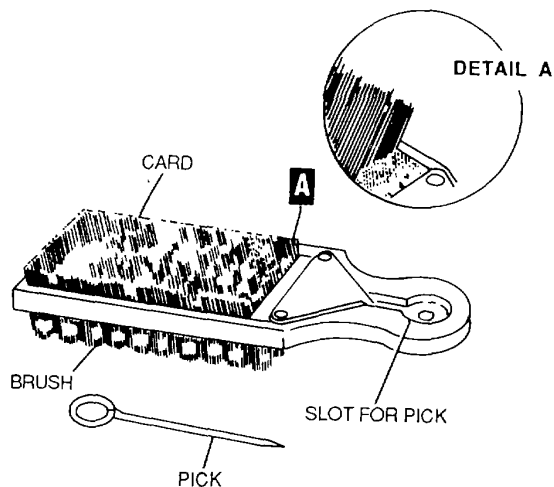

Figure 4-79. File Cleaner
(1) Break in a new file as discussed in paragraph 4-11d(1).
(2) Clean files using the file cleaner shown in figure 4-79.
(3) Never strike the file against a vise or other object to remove filings. Use the file cleaner.
(4) Do not oil files. This will cause the file to slide across the work, preventing efficient cutting.
(5) Wrap each file in a waterproofed barrier wrapping paper. Place the files in racks or boxes so that the faces or edges of the files will not touch each other.